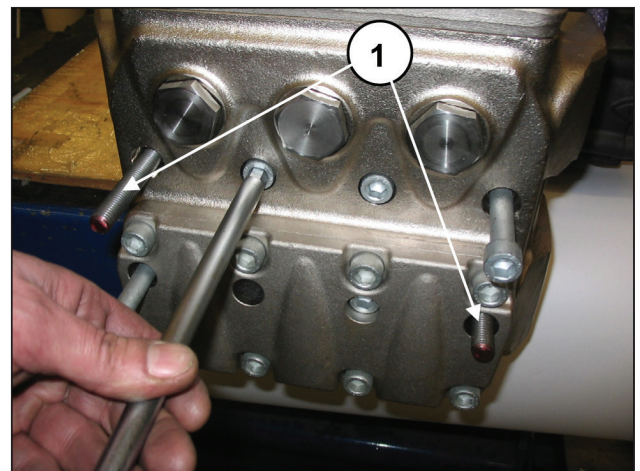

Fig. 42
- Unscrew the two external M12x160 screws fixing the head replacing them with two M12 threaded bars (Fig. 42, pos. ①) to avoid damaging the pistons, then remove the remaining screws.